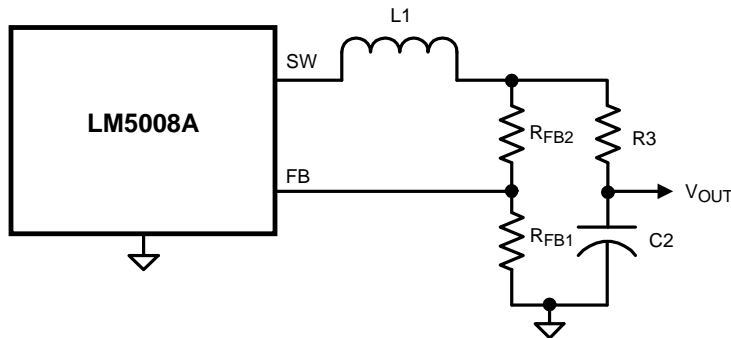

Figure 17. Alternate Minimum Output Ripple
c) **Alternate minimum ripple configuration:** The circuit in Figure 17 is the same as that in the Block Diagram, except the output voltage is taken from the junction of R3 and C2. The ripple at V_{OUT} is determined by the inductor's ripple current and C2's characteristics. However, R3 slightly degrades the load regulation. This circuit may be suitable if the load current is fairly constant.